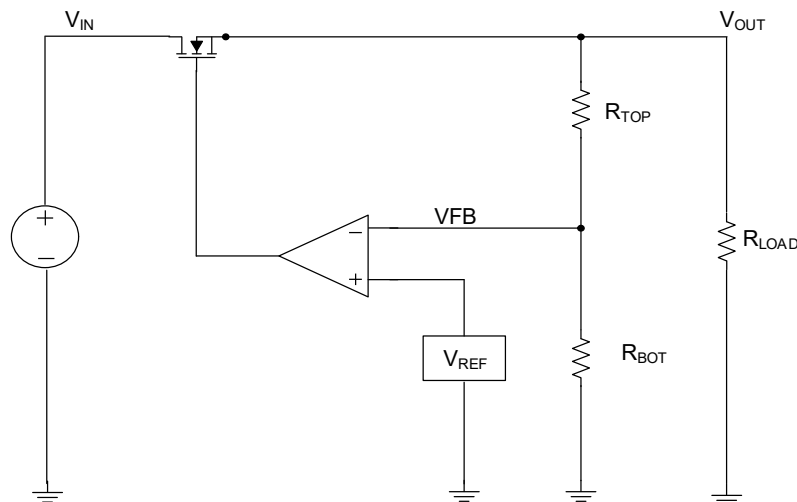

Figure 42. Simple NMOS LDO Regulator Block Diagram
Like the majority of LDOs with an NMOS pass transistor, the RAA214038 output voltage ( $V_{OUT}$ ) regulation can be modeled with a voltage reference ( $V_{REF}$ ), feedback (FB) resistors, error amplifier, and NMOS pass-transistor as shown in Figure 42.